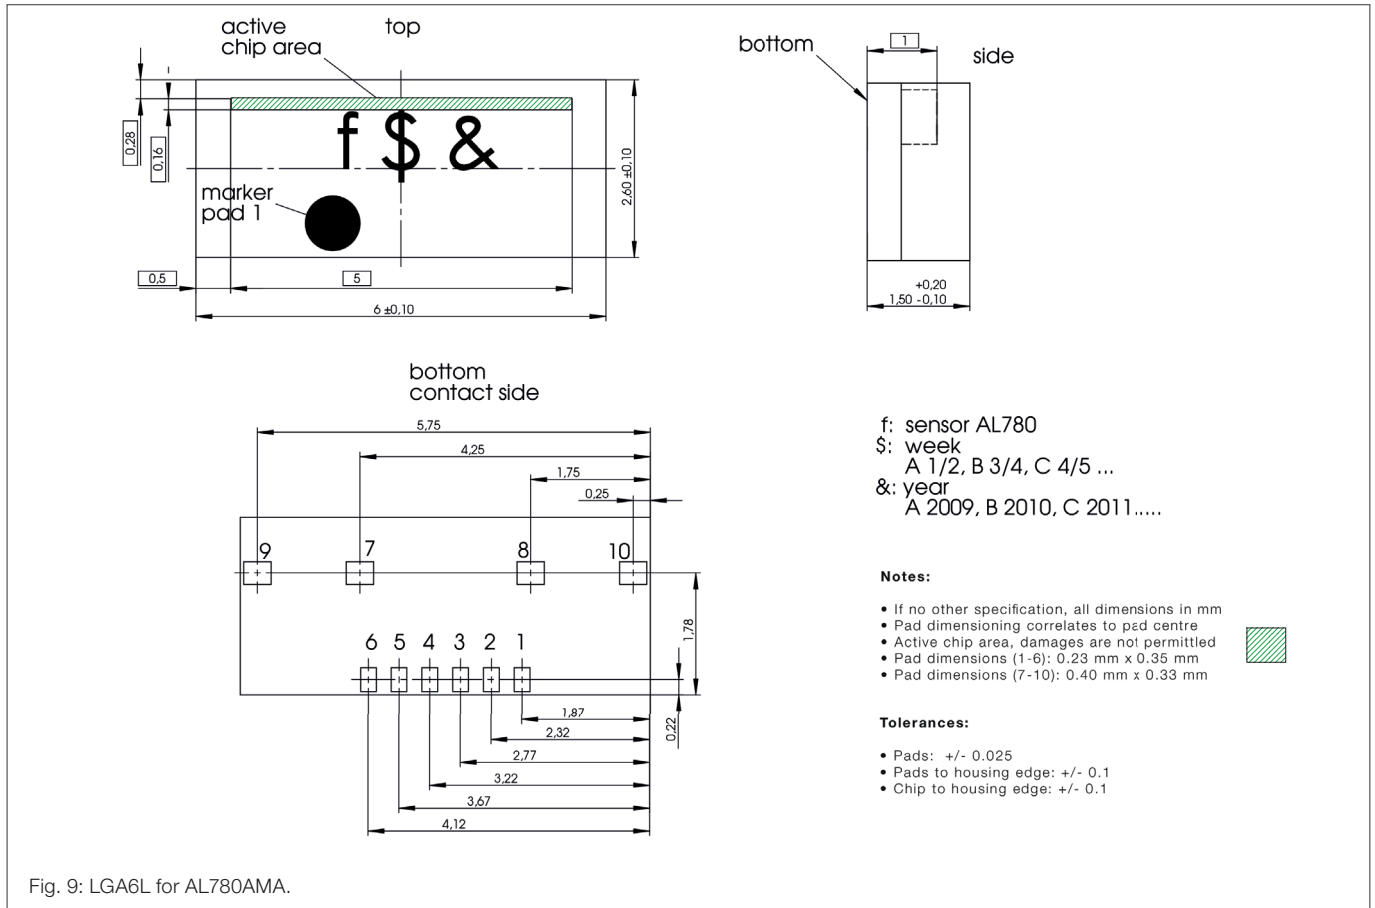

Fig. 9: LGA6L for AL780AMA.
9) ΔX = |Xreal - Xmeasured| with a working distance of 2000 microns without affecting the sensor offsets on a typical scale (for example Tromaflex® 928). See Fig. 9 for detailed information and the influence of the air gap between sensor and scale.